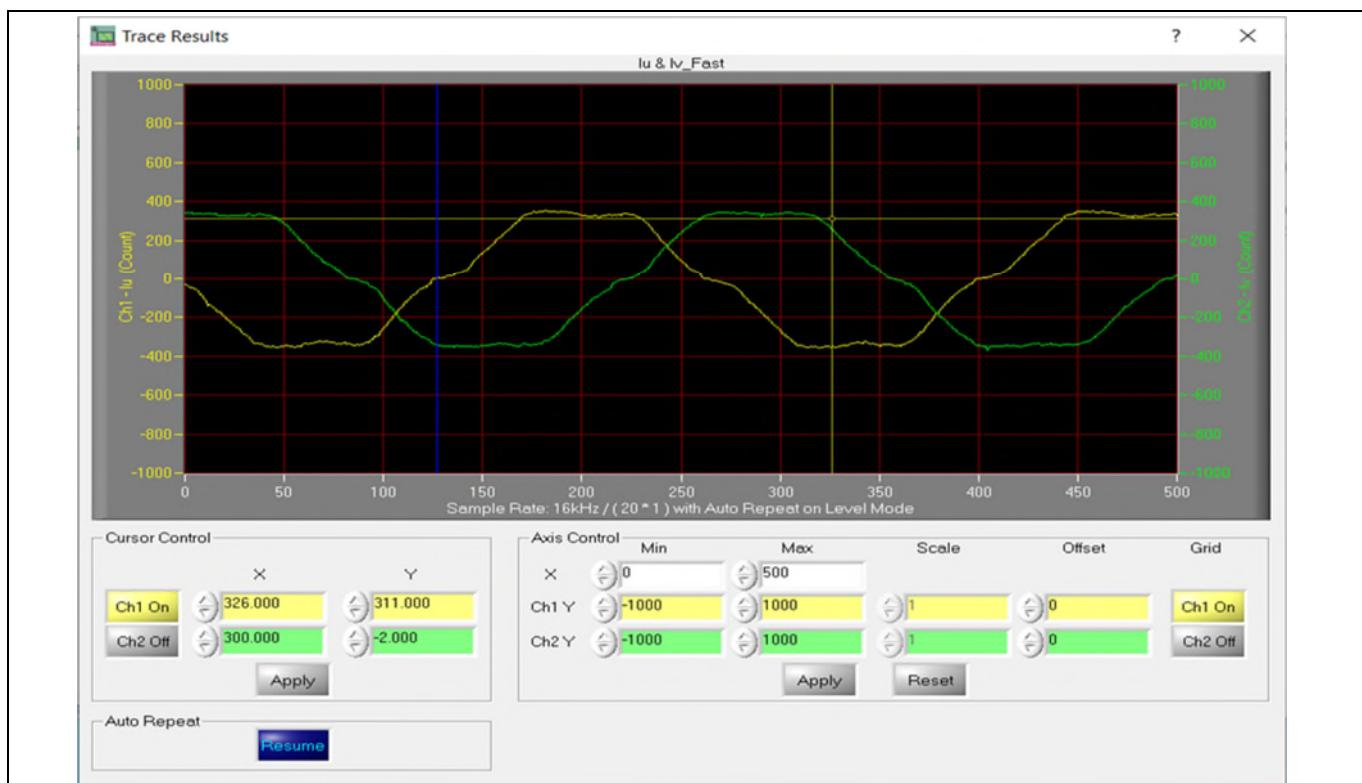

Figure 10 Trace waveform for I_u & I_v , open loop diagnostic
11. Open System Page > Monitor Definitions and double-click **I_u & I_v_Slow**. The motor current feedback should be clean and sinusoidal, as shown in Figure 10. If not, please tune the Gating Propagation Delay & Phase Shift Window Size in the MCEWizard. The sampled motor-current noise amplitude should be less than 50–100 counts (below 5% of the motor current or below 5% of the maximum AD (Analog to Digital converter) range, which is 2048 counts.) If not, the motor current sample-related hardware and the setup need tuning. The VF Diagnostic sub-function can verify whether the: